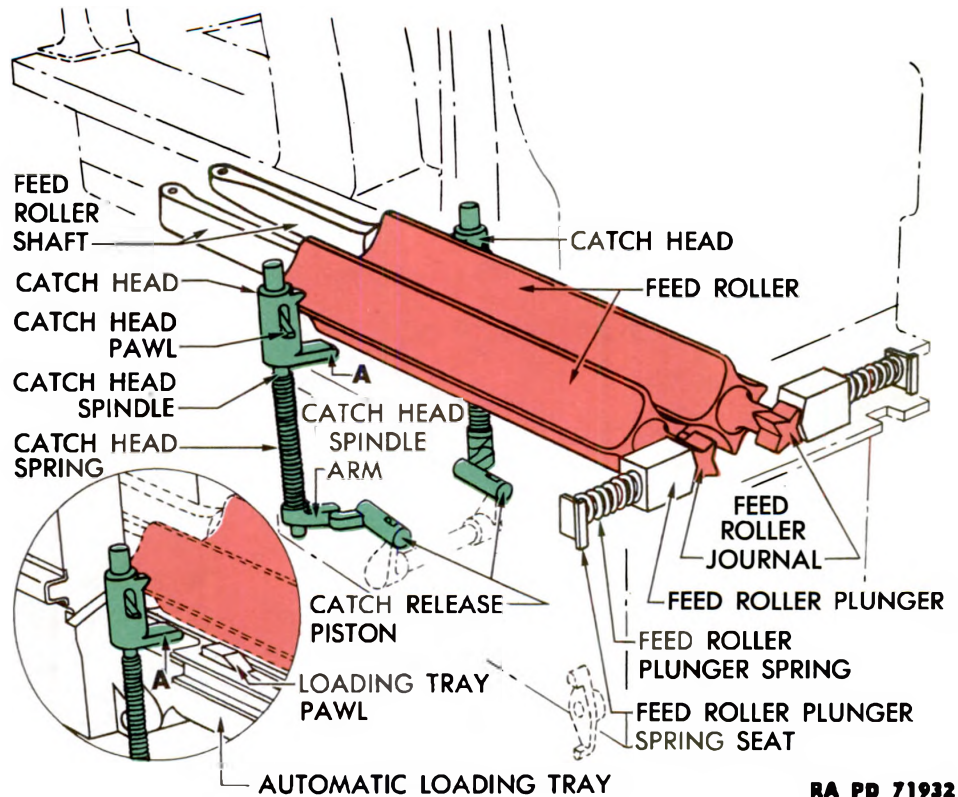
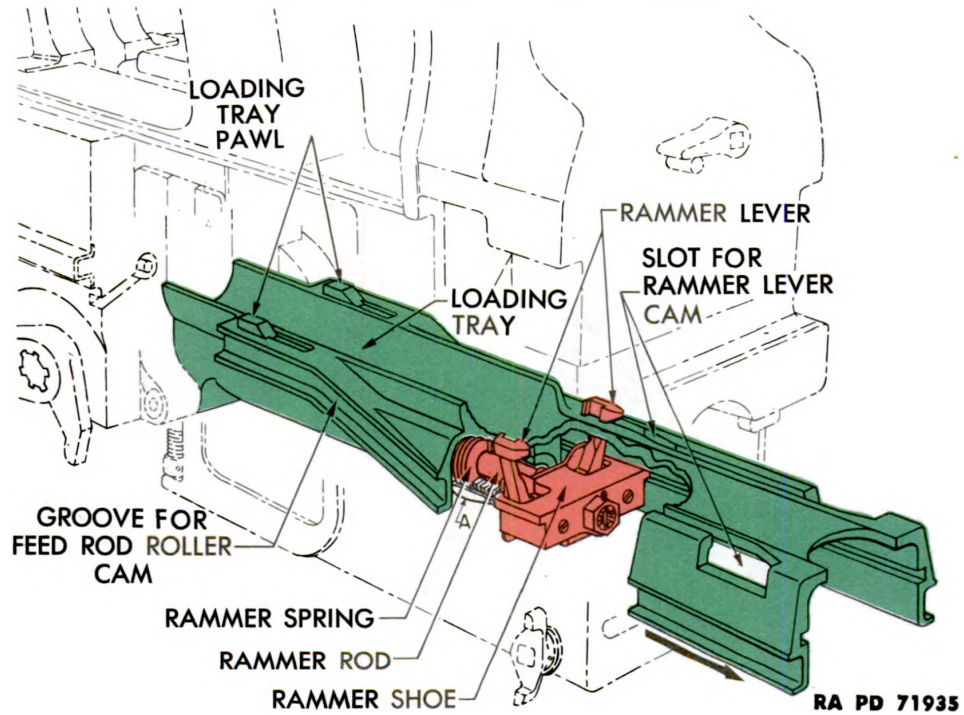

Figure 32 – Feed Rollers – Engaged
Figure 35 – Loading Tray – Rammer Shoe Held
(1) The feed rollers (red in figs. 32 and 33) are metal prisms with four convex sides. They are located in the loader under the feed and stop pawl assemblies and over the loading tray. They are mounted to rotate in opposite directions. Their purpose is to insure that only one cartridge is fed onto the loading tray at a time.
(2) The feed rollers are revolved by the cartridge as it is forced down onto the loading tray. Their movement is controlled by the feed roller catch and plunger mechanisms.
(1) The feed roller catch mechanisms (green in figs. 32 and 33) consist of feed roller catch heads fitted with spring-loaded catch head pawls, catch head spindles, springs, spindle arms, and catch release pistons. The catch mechanisms are located near the front ends of the feed rollers. Their functions are to hold and release the feed
rollers and to limit their turning to exactly one-quarter revolution. They are actuated by the catch release pawl assemblies in automatic operation (inserts, figs. 32 and 33) and by the catch release pistons in manual operation (figs. 32 and 33).
(2) The feed roller plunger mechanisms consist of feed roller plungers, springs, and spring seats (figs. 32 and 33). They are located under the loader crosspiece cover at the rear of the loader. The plungers act on 4-pointed feed roller journals on the rear ends of the feed rollers to aline the rollers after each one-quarter turn.
(3) The spring-loaded catch release pawl assemblies (figs. 35 and 36) are located at the front of the loading tray. During the recoil of the gun, the loading tray pawls of the catch release pawl assemblies are depressed as they pass under the lugs (A, figs. 32 and 33) which protrude sidewise from the bottoms of the catch heads, but during counterrecoil, they engage these lugs and rotate the catch heads.
(4) The feed rollers are normally locked in position by the catch heads. During counterrecoil, when the cartridges are being depressed by the feed mechanism, the loading tray pawls engage and rotate the catch heads. This action releases the feed rollers and permits them to be revolved by the cartridge as it is forced downward (inserts, figs. 32 and 33). When the cartridge has passed through the feed rollers and the rollers have revolved one-quarter turn, the catch heads are returned to their normal positions by their torsion springs, locking the rollers in place.
(5) The catch heads are also rotated in another manner. When the hand operating lever (fig. 37) is pulled backward, it actuates the hand operating device which rotates the feed roller catch release spindle levers in a forward direction. These move the catch release pistons (figs. 32 and 33) against the catch head spindle arms, rotating the catch heads and releasing the feed rollers for one-quarter turn.
b. The loading tray (green in figs. 35 and 36) is trough-shaped to receive the cartridge. Its front end is bolted to the breech ring and recoils and counterrecoils with it. The loading tray pawls of the catch release pawl assemblies, which rotate the catch heads, are located near the front end. The cam grooves in which the feed rod rollers move are located on the sides of the tray. These grooves cause the rollers to raise the feed rods during recoil and to force them down during counterrecoil, actuating the feed mechanism and feeding another cartridge onto the loading tray.
both sides in the top of the tray for the rammer levers. A beveled projection on the bottom of the rammer rod and spring housing (A, fig. 35) trips the rammer releasing lever as the loading tray nears the end of counterrecoil.
a. The function of the cartridge rammer assembly (red in figs. 35 and 36) is to store up energy by the compression of its spring during the counterrecoil of the loading tray and, by means of the rammer levers, to grip the rim of the cartridge; then, when the rammer shoe is released, to carry the cartridge forward under the compression of the rammer spring, release it, and send it forward by its momentum into the chamber of the gun.